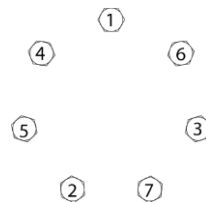

Figure 3: Correct bolt sequence
- h) Install manifold seal (8).
12. Install the commutator seal (9) into the commutator (25) with the metal side facing up.
- b) Place the commutator container onto the manifold (24) and then place the commutator onto the protruding end of the drive link (21) making sure that the seal side faces up.
13. Install the remaining body seal (7) in the groove in the face of the endcover (28).
- a) Install piston spring (27) into endcover (28), then the white backup seal (11) followed by the O-ring seal (10).
- b) Lining up the alignment pin with the hole in the endcover, press piston (26) into the endcover (28).
- c) While holding the piston (26) in the endcover, lower the endcover assembly onto the motor.
14. Install the seven assembly bots (20) and pre-torque to 13.6 Nm [10 ft. lb.].
- a) Using the bolt torque pattern in *Figure 3* final torque all bolts to  $69.8 \pm 7.5$  Nm [ $51.5 \pm 5.5$  ft. lb.].
- c) Install dust seal (1) into bore in housing pilot.